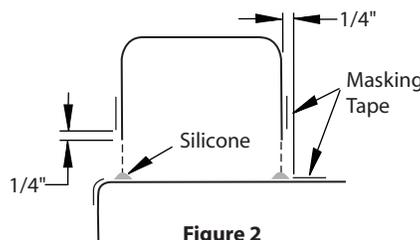

Figure 2
3. Carefully put the threshold in position. See Figure 2
4. Smooth out the excess silicone with a wet finger. Masking tape positioned 1/4" from the pencil line on the shower and 1/4" from the edge of the Adaptor can help here. See Figures 2 and 3